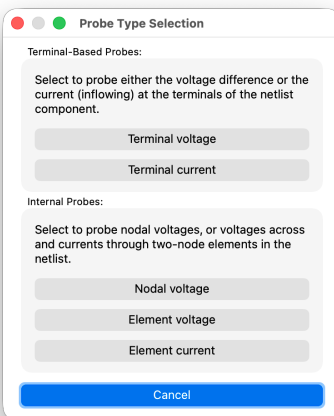

Figure 7: Netlist probes selection window
- 10 From the **Probe** tab of the netlist window, it is possible to add probe signals to the netlist component. Clicking on the “+” icon opens the menu shown in Fig. 7.
- 8** From the **Probe** tab of the netlist window, it is possible to add probe signals to the netlist component. **Clicking** on the “+” icon opens the menu shown in Fig. 7.